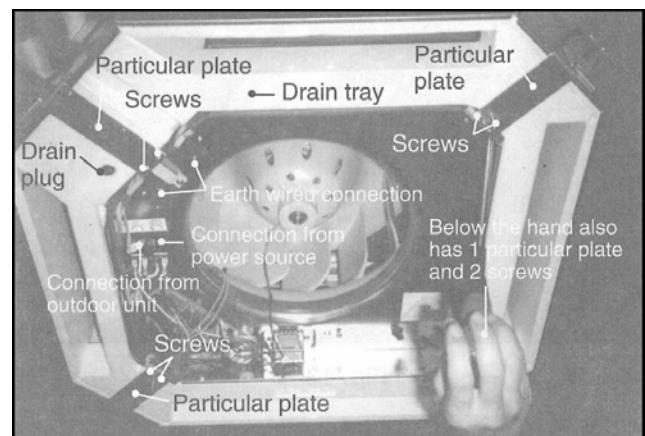

Fig. 9
(Refer Fig. 9).
8. Get ready 1 bucket for you to intercept falling water, when you remove the drain plug (Fig. 9).
9. Remove 7 screws that hold the 4 pcs particular plates then remove the particular plates (Fig. 9).
2. Remove Drain tray (Please refer Fig. 9 - previous page).